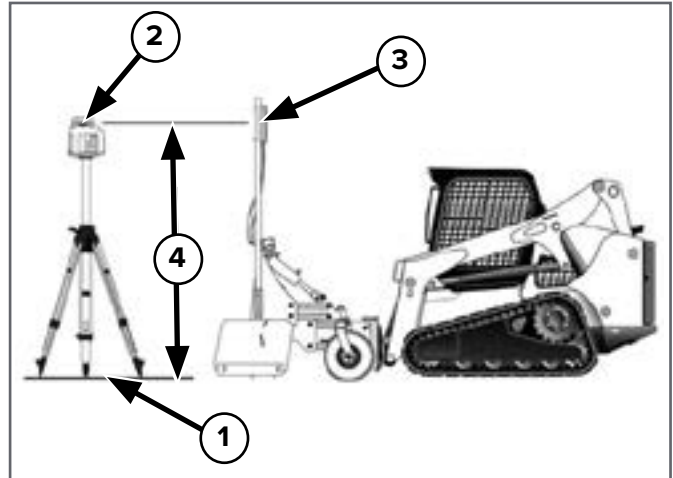

Figure 12
1. Place the laser beacon and tripod on an area that is close to finish grade (Item 1) [Figure 12].
3. Raise the laser beacon (Item 2) [Figure 12] above the loader cab to align with the laser receivers (Item 3) this will create a benchmark (Item 4) to start from.